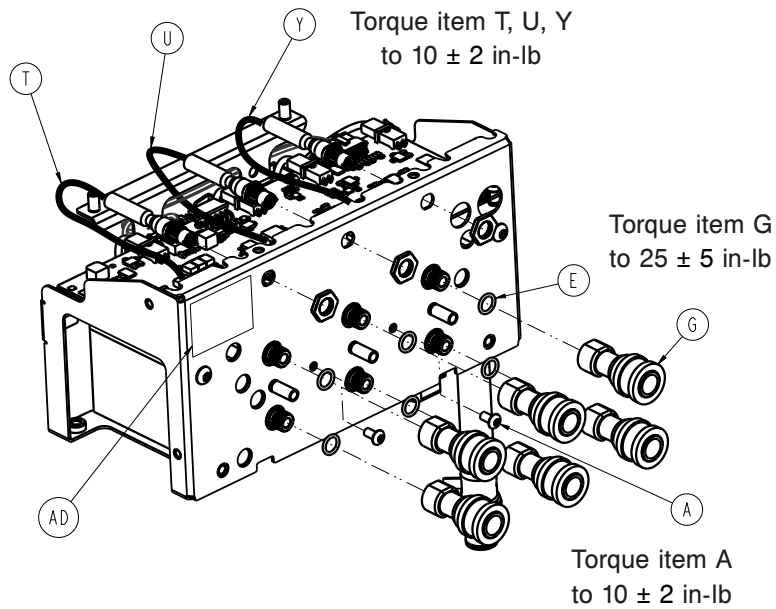

Figure 43 – Hose connectors
16. Using a 7/16" socket, loosen the two nuts (D) that secure the MCB bracket to the control assembly bracket.
19. Using a crescent wrench, remove the six hose connectors (G) and O-rings (E) (Figure 43). Save the hose connectors.